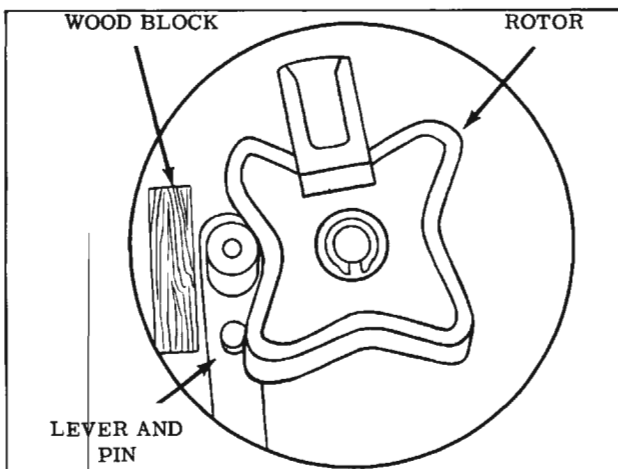

Fig. 14-88 Removing Bellows
3. Place an obstruction (small block of wood) between cam lever arm and housing. (Fig. 14-88)